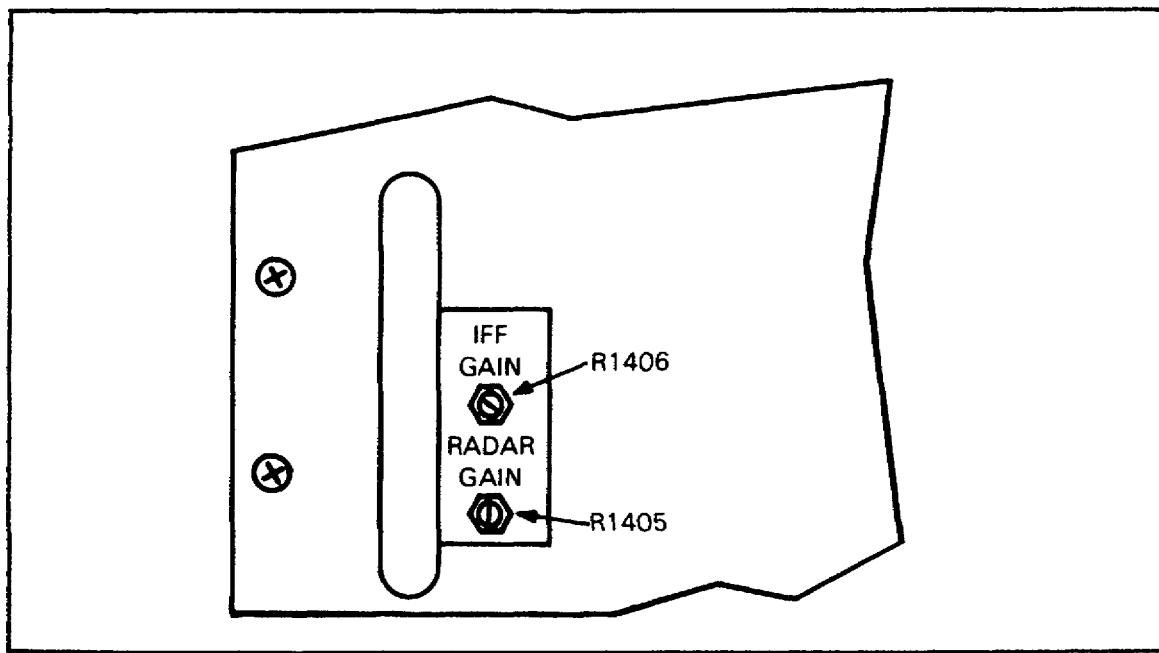

Figure 11. Radar and IFF gain controls.
b. Rotate radar gain control R-1405 and IFF gain control R-1406 fully counterclockwise (ccw). (See Figure 11.)
- IFF gain control (Figure 11)
- Radar gain control (Figure 11)